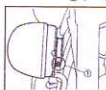

Fig. 26
AIR CLEANER (Fig. 26, 27, 28, 29, 30 & 31)
- Loosen the clamp(Fig.26).